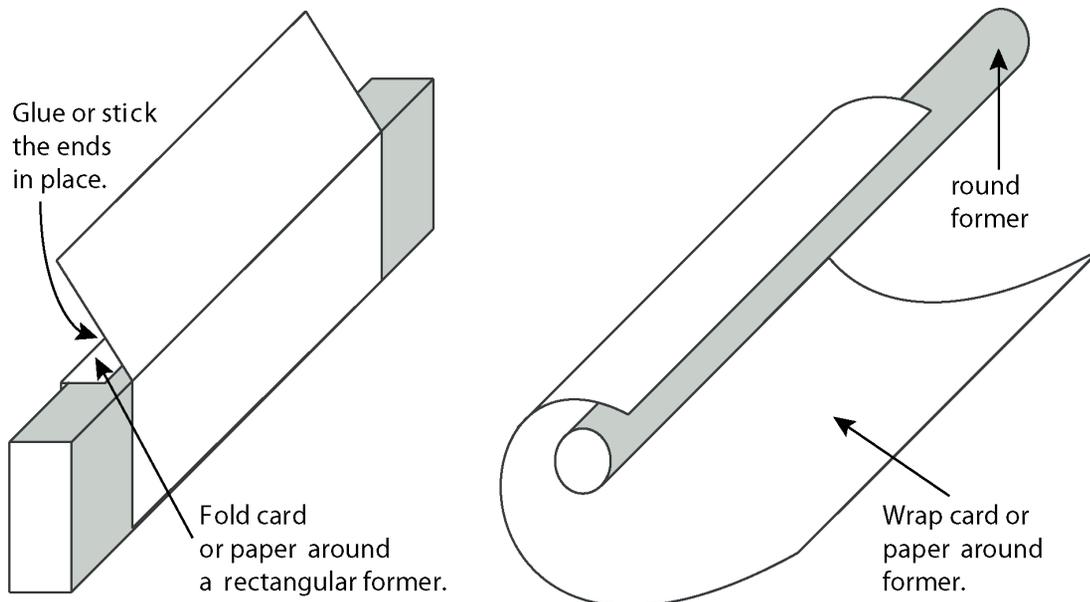

Figure 7: How to make the steel columns
You can make your steel columns using cardboard. Look at Figure 7 to help you. You can make round or rectangular columns depending on the **former** you use:
1. Choose how you will make your columns and then make all the pieces you will need for your model. Have another look at Figure 7 to help you.